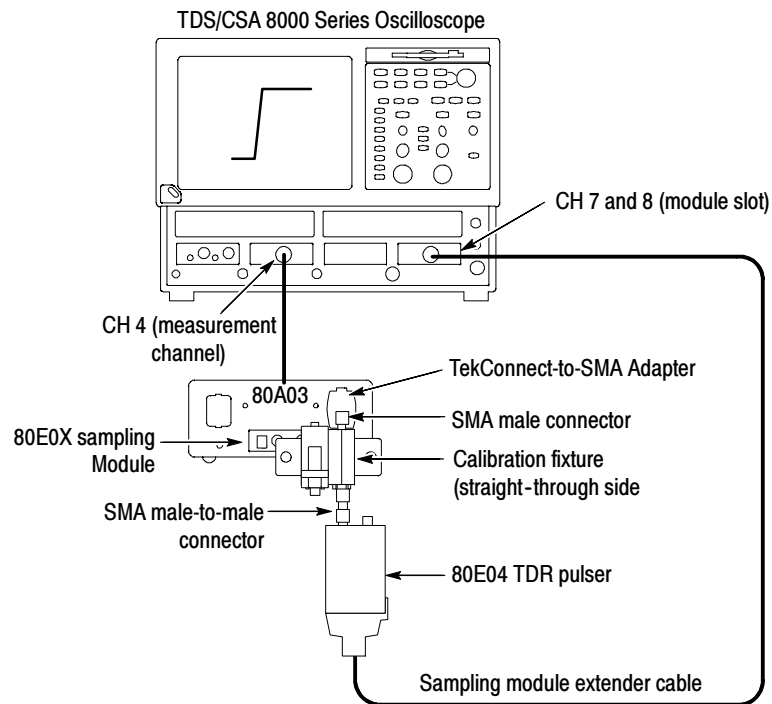

Figure 15: Test system rise time setup
1. Connect the test equipment as shown in Figure 15. Provide support under the 80E04 Pulser to avoid stressing the connectors.
8. Adjust the oscilloscope horizontal and vertical position controls to display a signal similar to that shown in Figure 15.